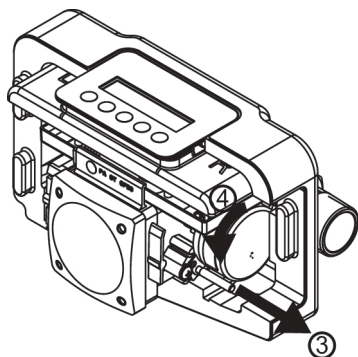

Fig. 8: Remove the red locking pin and rotate the motor
3. Remove the red locking pin (see Figure 8).
4. Turn the motor **counter-clockwise** through approximately 90 degrees ($\frac{1}{4}$ of a turn; see Figure 8). It is not necessary to release any screws to do this.